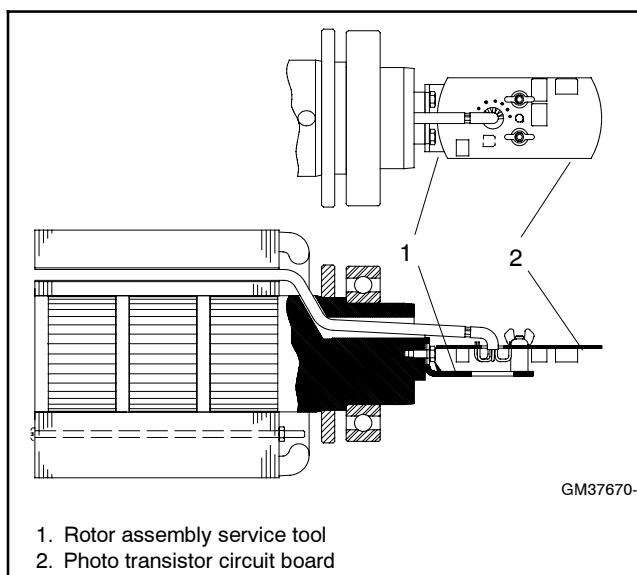

Figure 4-5 Rotor Assembly Service Tool Y-5718
14. **350/400 kW only.** Remove the photo transistor circuit board screws. Remove the magnetic actuator and insulator. Attach service tool Y-5718, or equivalent, to rotor shaft and attach the photo transistor circuit board to the service tool. See Figure 4-5.